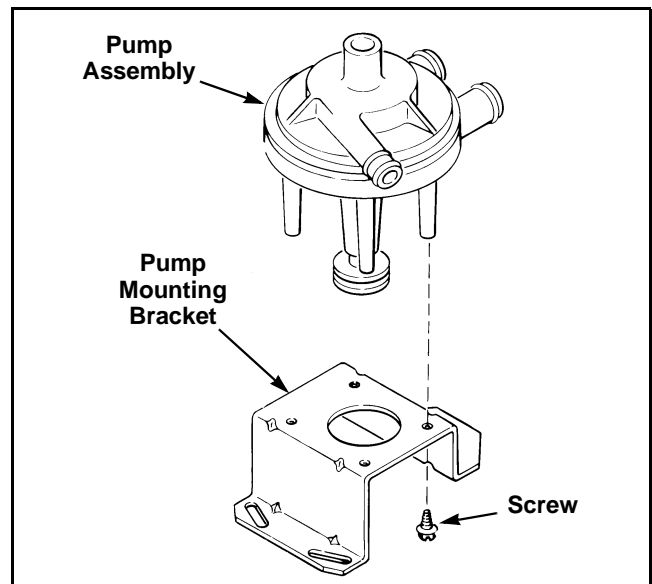

Figure 26
**NOTE:** Refer to *Figure 26* for pump and mounting bracket assembly sequence.